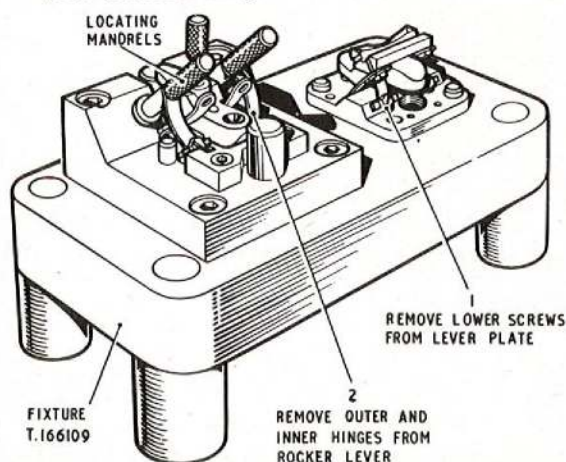

Fig. 6. Removing the rocker lever from the rocker lever plate
26. Mount the rocker lever plate on the fixture T.166109 (fig. 6), then remove the four lower tabwashers and screws on the torsion hinges, and lift off the rocker lever with attached hinges.